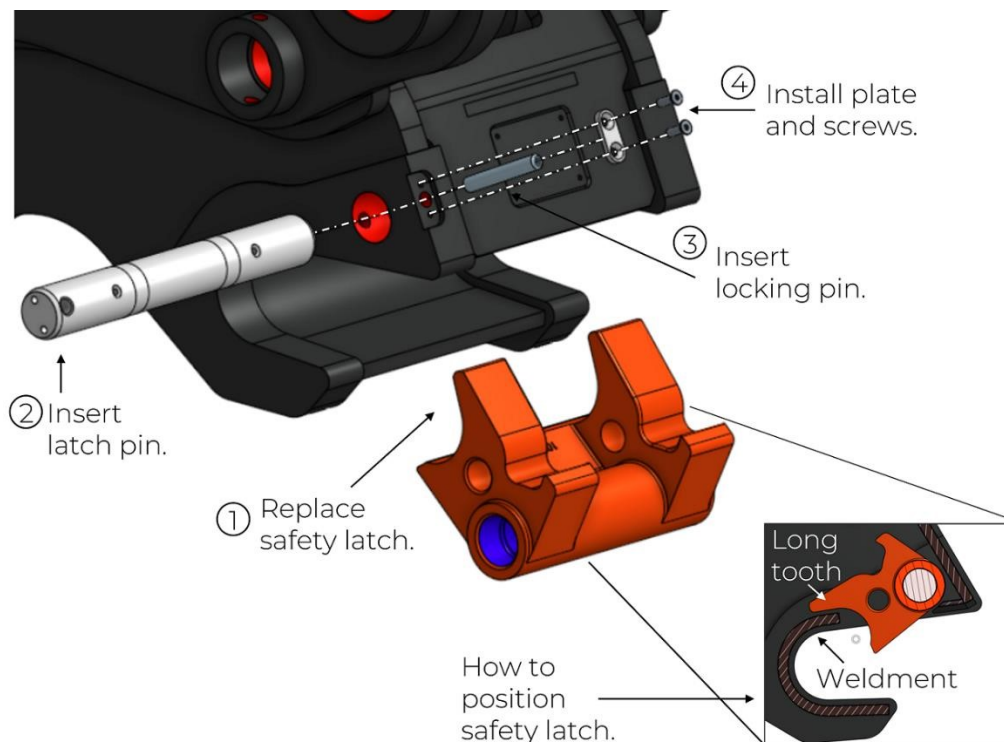

Figure 23: Replacing the safety latch.
11. (**Note:** Skip this step if you're not replacing the safety latch) Attach the new safety latch as shown in Figure 23 below. Lightly grease the latch pin and the locking pin before inserting, and tightening screws with wedge lock washers to a torque of 15 N-m.